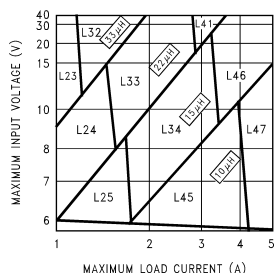
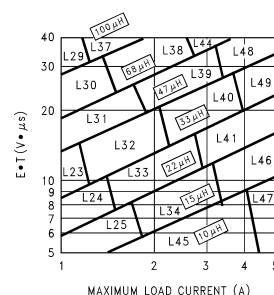

Figure 21. LM2677-3.3
Figure 24. LM2677-ADJ
Step 3: Determine the inductor required by using one of the four nomographs, Figure 21 through Figure 24. Inductor Manufacturer Part Numbers provides a specific manufacturer and part number for the inductor.
Step 5: Determine an input capacitor from Table 7 for fixed output voltage applications. Use Table 3 to find the specific capacitor type. For adjustable output circuits select a capacitor from Table 3 with a sufficient working voltage (WV) rating greater than $V_{in\ max}$, and an rms current rating greater than one-half the maximum load current (2 or more capacitors in parallel may be required).
Step 3: Use the nomograph for the 3.3V device, Figure 21. The intersection of the 16V horizontal line (V_{in} max) and the 2.5A vertical line (I_{load} max) indicates that L33, a 22μH inductor, is required.
Step 3: To use the nomograph for the adjustable device, Figure 24, requires a calculation of the inductor Volt•microsecond constant (E•T expressed in V•μs) from the following formula:
Using Figure 24, the intersection of 27V•μs horizontally and the 2A vertical line (I_{load} max) indicates that L38, a 68μH inductor, should be used.
Important Note: When using the adjustable device in low voltage applications (less than 3V output), if the nomograph, Figure 24, selects an inductance of 22μH or less, Table 10 does not provide an output capacitor solution. With these conditions the number of output capacitors required for stable operation becomes impractical. It is recommended to use either a 33μH or 47μH inductor and the output capacitors from Table 10.